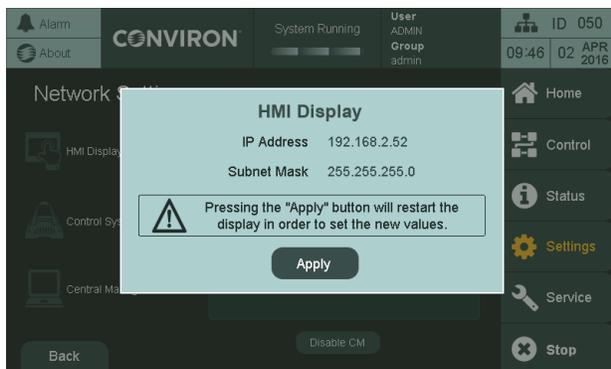
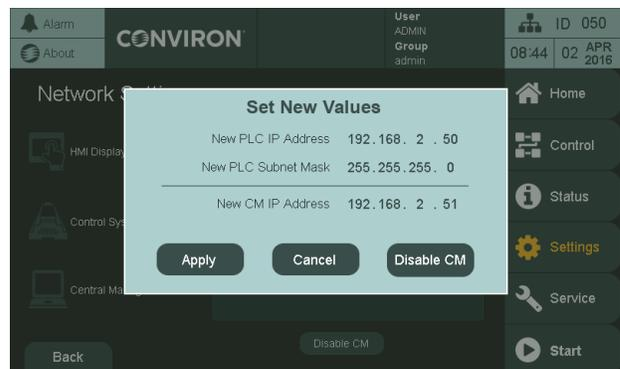

Figure 7-14 HMI Network Settings
Figure 7-15 PLC and CM Network Settings
2. Tap on any of the values to bring up a dialog box to edit the settings. There are two dialog boxes: one for the HMI settings (Figure 7-14) and one for the PLC/CM Settings (Figure 7-15).